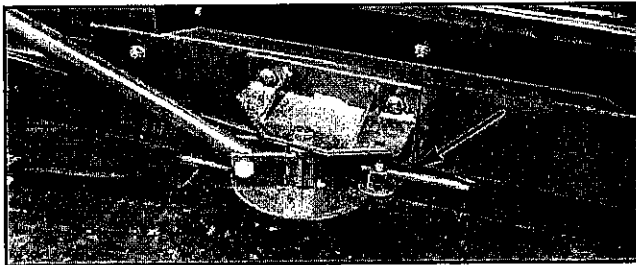

Figure 37: Auger feeder swing brake.
The auger feeder swing brake prevents the auger from swinging. Tighten or loosen as desired (see Figure 37).
*NOTE: If machine is equipped with an electric scale, to obtain a more accurate reading DO NOT rest auger feeder on the ground. Place in position and set swing brake (see Figure 37).*